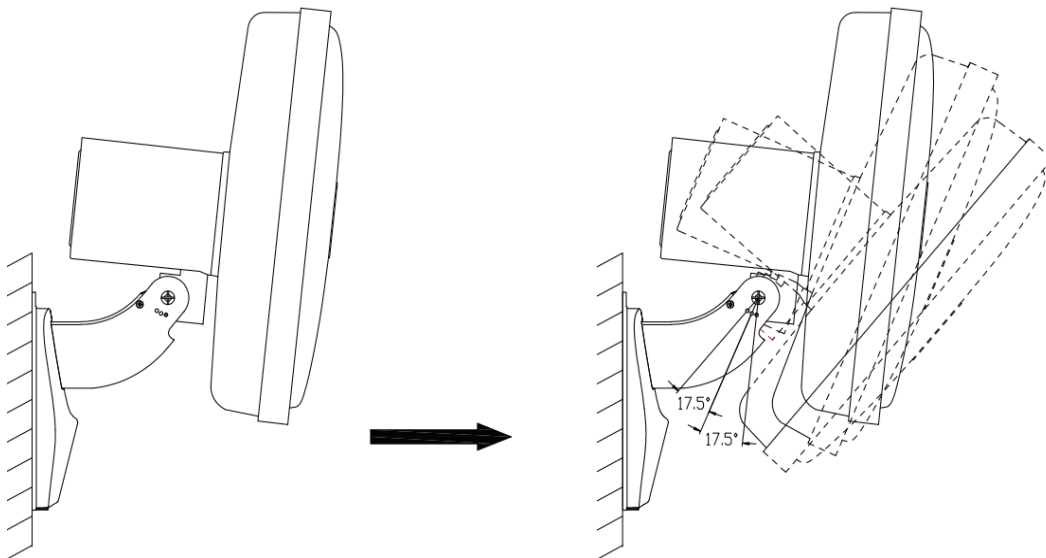

Fig.7
3.5 Adjust the arm to your desired angle. (Fig.7)